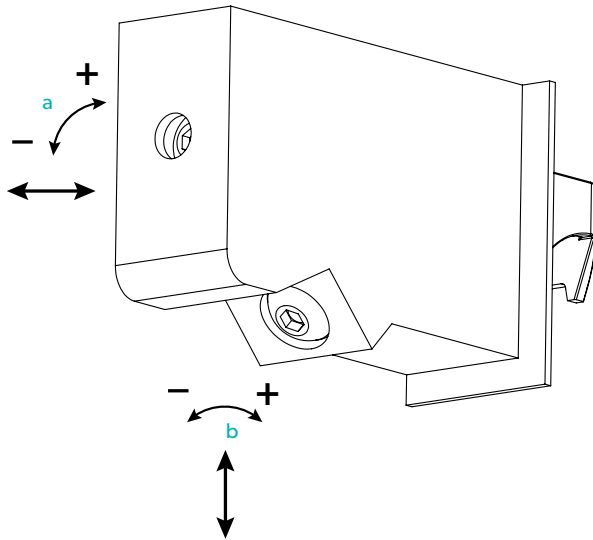

Fig. 7
8. Use furniture hangers to adjust alignment of furniture unit(s) (*Fig. 7, screw B, overleaf*), ensuring that they are level.
10. Once the unit(s) are in position, adjust the screw on the furniture hanger (*Fig. 7, Screw A, overleaf*) to bring the furniture tightly against the wall.